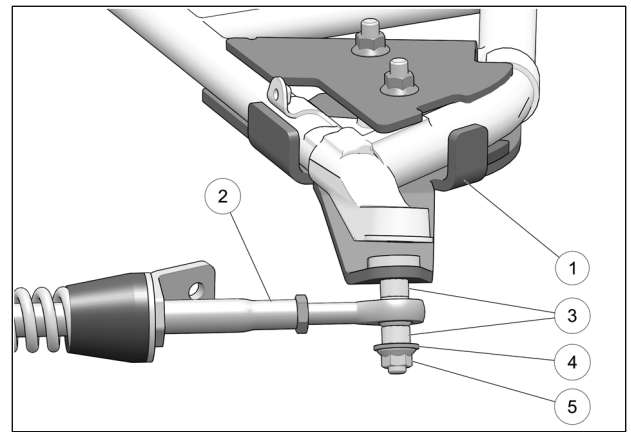

Fig. 22
12. Attach the stabilizing rod (2) to the anchor bracket (1), using the two spacer bushings (3), flat washer (4) and nut (5). Torque to 70 N•m [52 lb•ft]. Refer to Fig. 22